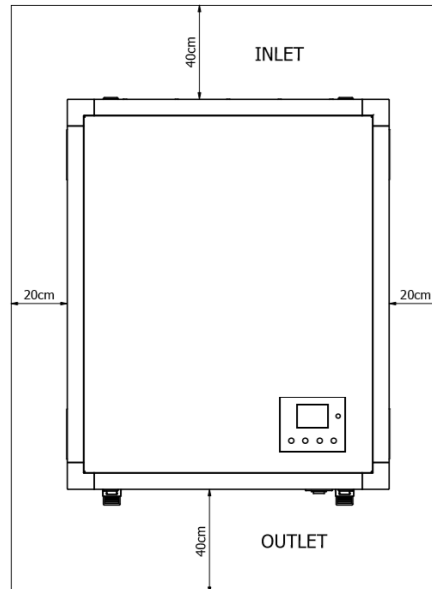
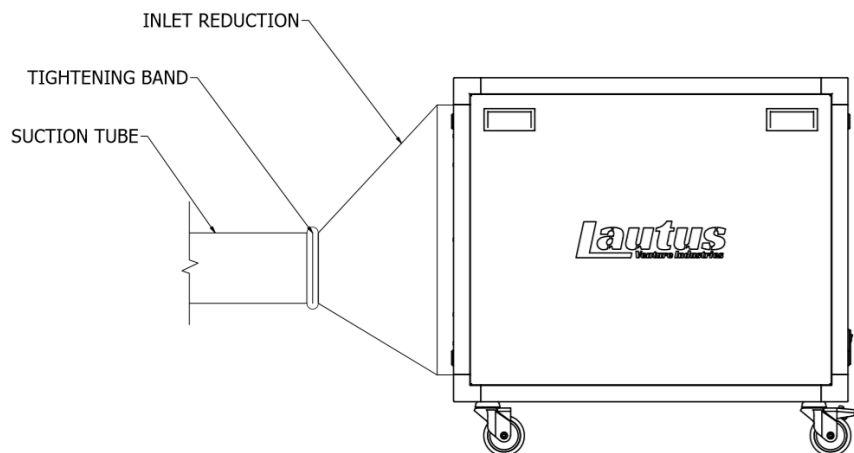

Fig.2 Minimum allowed distance from walls (top view of the device)
Fig.3 Using the device as a local extraction
- The device should be placed on wheels in the room or in a walkway at the appropriate distance from the walls as shown in [Fig. 2]. The air purifier should not be placed on its side or in any other position. After using an appropriate stub and a ventilation duct, the device can be used as a local exhaust [Fig. 3].